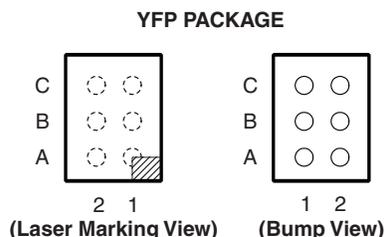
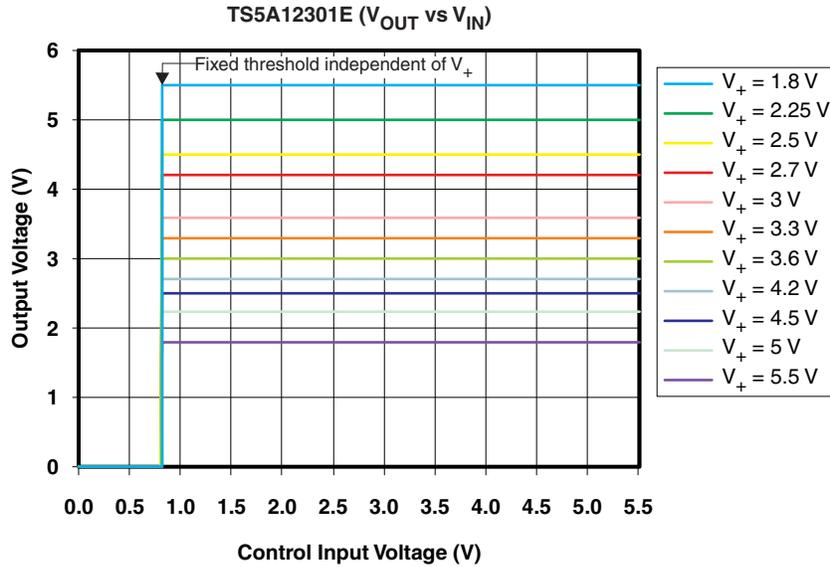

Figure 7. TS5A12301E Package Pinout
Figure 8. Control Input Threshold is Independent of V₊
The TS5A12301E is a SPDT analog switch specially designed to support low voltage control pins (see Figure 7 and Table 1). This analog switch features an ultra-low R_{ON} of 0.75 Ω , which makes it ideal for use in audio applications. The control input (IN) of this device can accept 1.2-V, 1.5-V, 1.8-V, 2.5-V, 3.3-V, and 5-V logic control signals without any excess current consumption regardless of the supply voltage V_+ . The control input of this device, uses a circuit that keeps the input threshold constant, independent of V_+ . This is demonstrated in Figure 8 where the control input threshold remains fixed at approximately 0.81 V (typical) over a wide range of V_+ values.